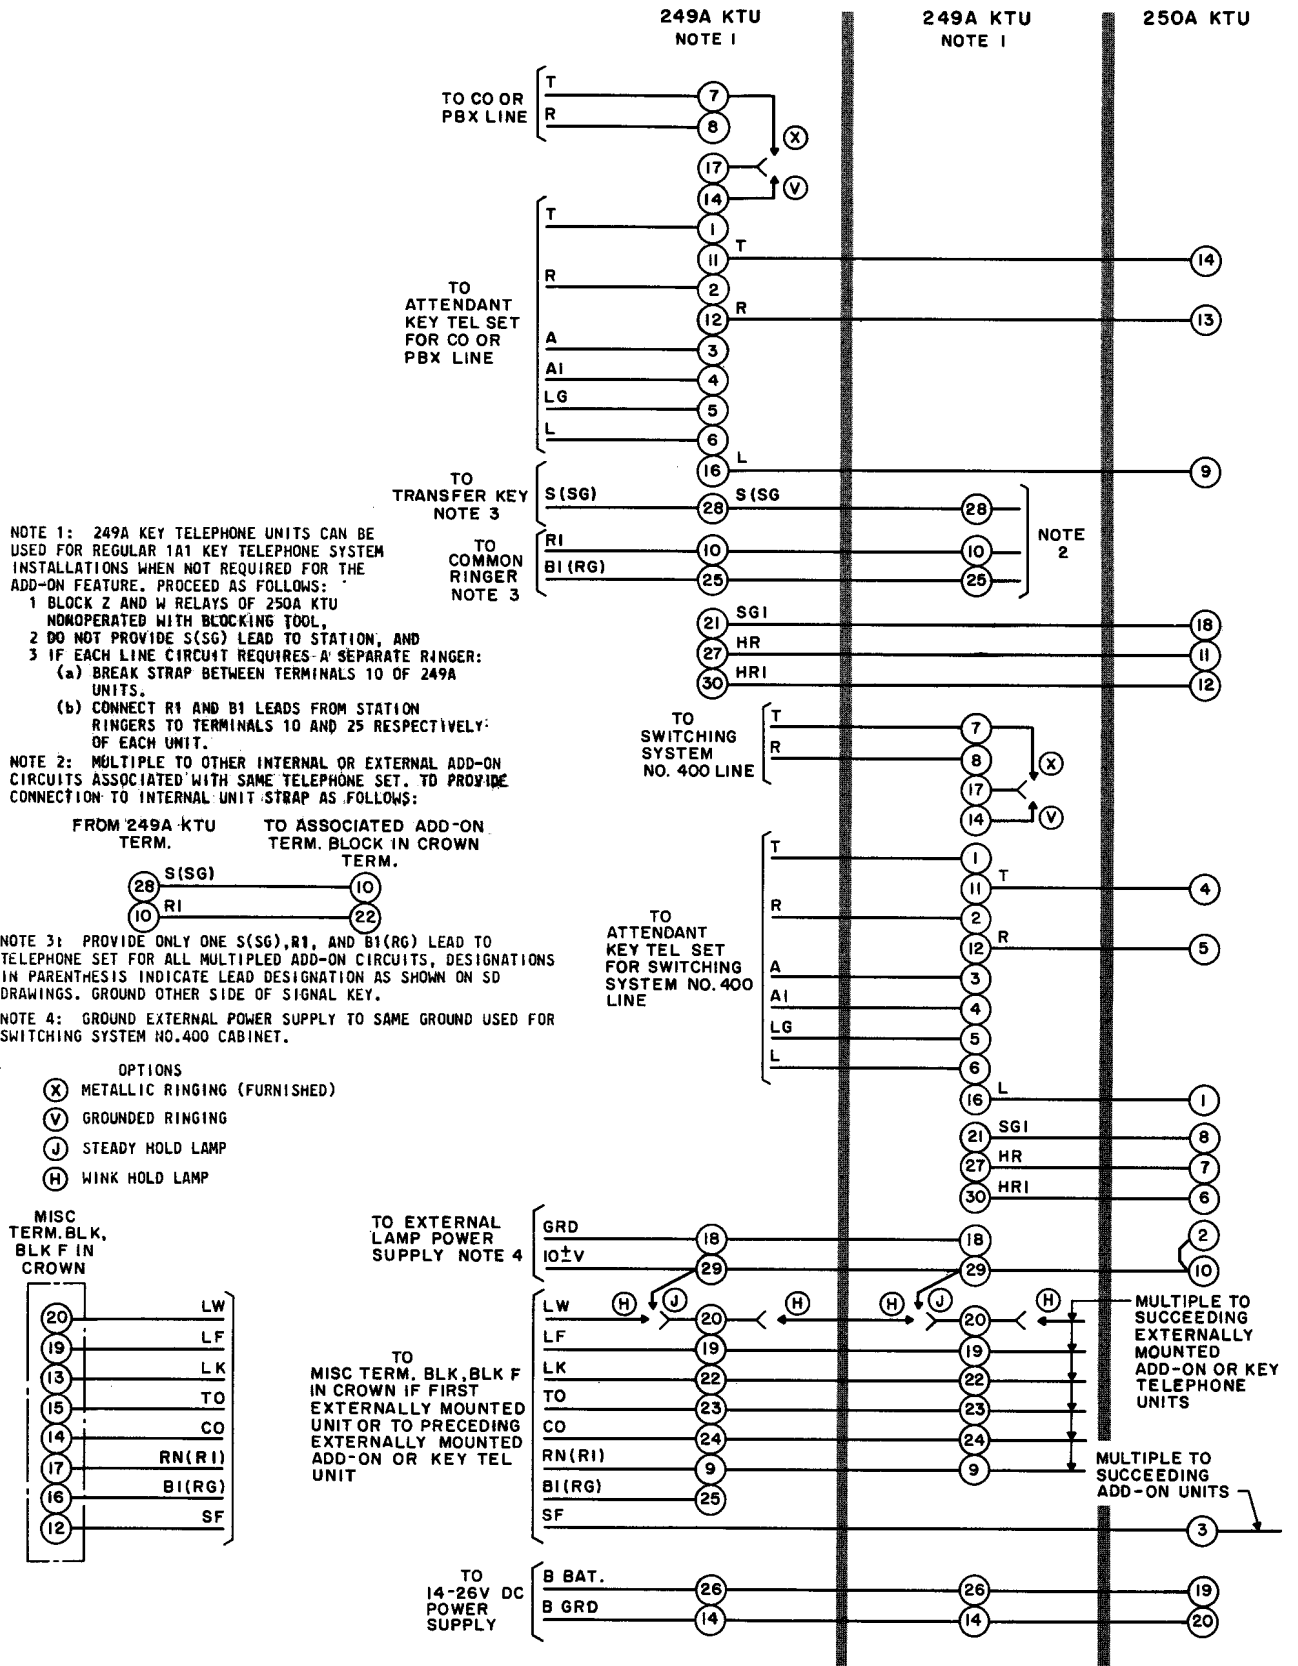

Fig. 12 - Connections for External Add-On Circuit
4.10 Fig. 12 shows the connections to be made when adding external add-on units to system. Two 249A and one 250A key telephone units are required to provide the add-on feature for a central office or PBX line.